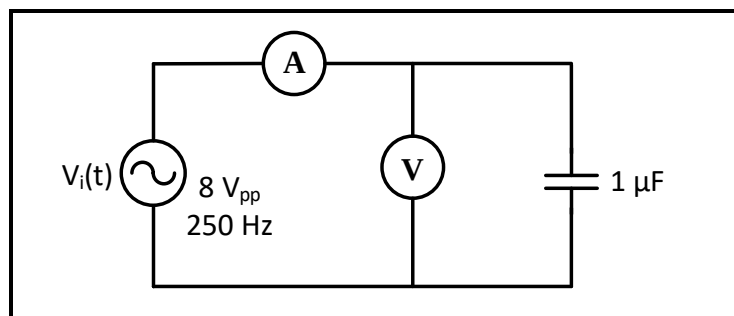

Figure 9.8
2. Connect the circuit in Figure 9.8, set V_{in} to sinusoidal voltage at $8 V_{pp}$, $f = 250$ Hz.
- a. Repeat steps (a) and (b) in (1) for the circuit in Figure 9.8 record results in Table 9.2.